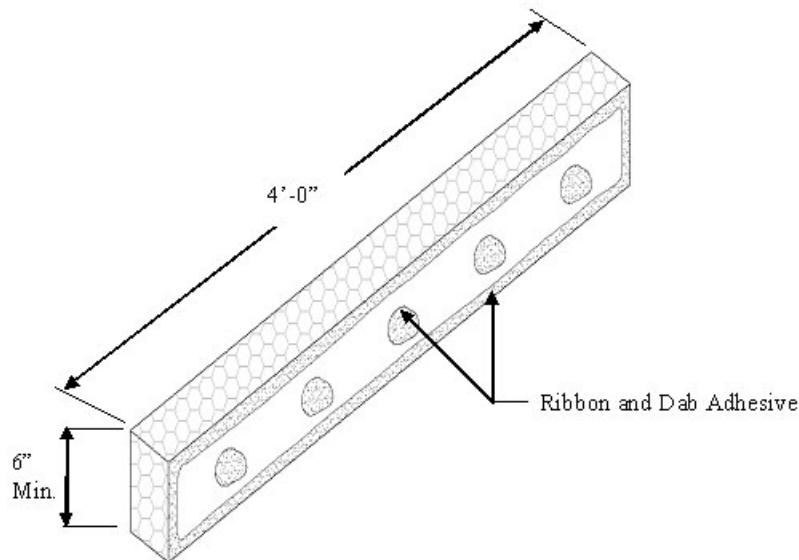

Figure 30
7. Tops of walls, sills of continuous windows and other horizontal system terminations are terminated using 6 in or 12 in x 48 in (152 mm or 305 mm x 1.2 m) I.S. Closure Blocks. These are adhered to Backstop NT using a ribbon and dab adhesive pattern as shown in the Figure 30.